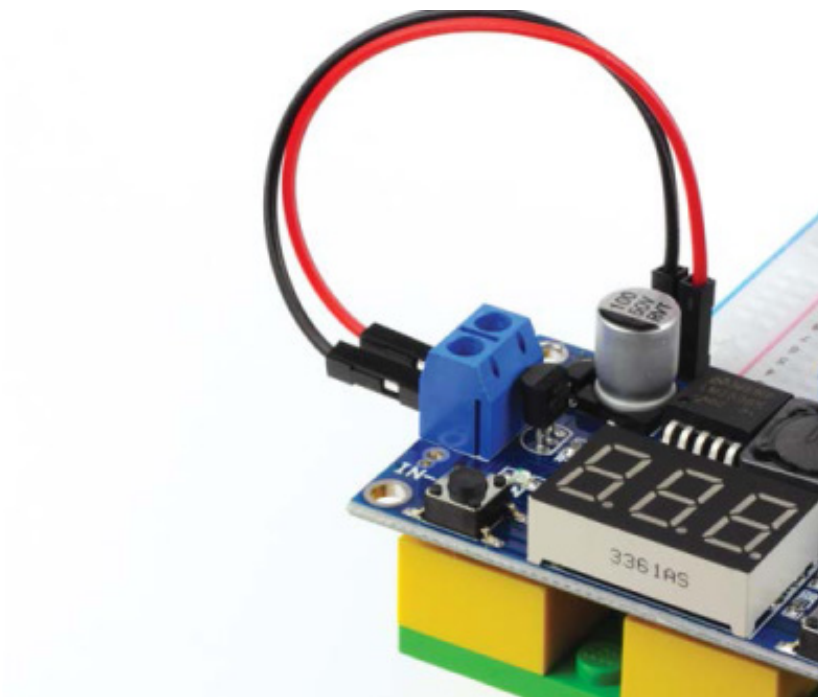

FIGURE 3-18 The 7 V–9 V and ground lines running into the LM2596 buck converter
2. Take one red and one black M-M jumper wire and insert them into the positive and negative ground rails, respectively. Ensure that the ends of the wires do not touch during this. Now unscrew the screw in the terminal labeled VIN (for voltage in) of your LM2596 module, insert the red positive wire, and then tighten the screw terminal. Then insert the black negative wire into the ground terminal labeled GND (for Ground) on the same side of your LM2596 module, as shown in Figure 3-18. Make sure that you get the positive and ground wires the right way around!